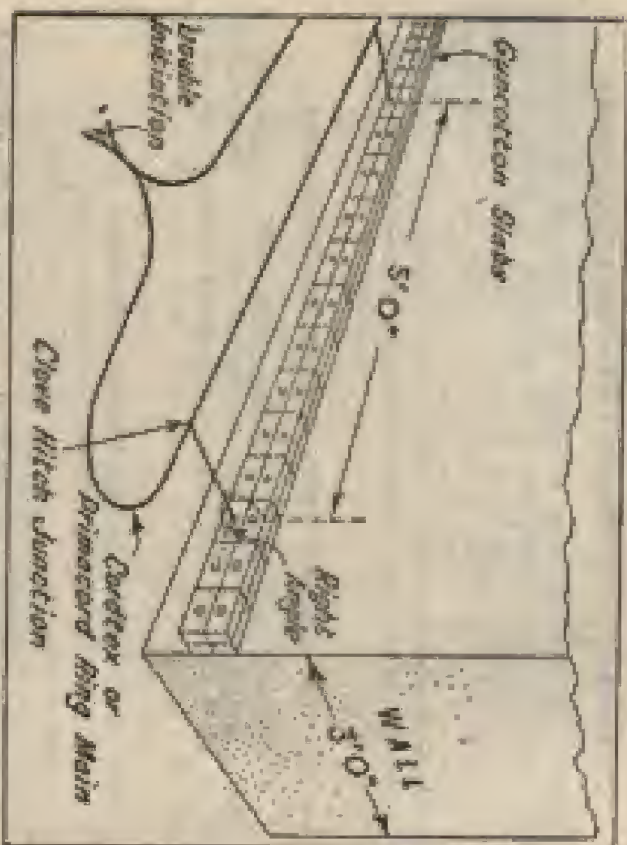

Fig. 13. Cutting charge on thick masonry wall, showing points of initiation. (Firing initiated from clarity)
- (b) Long continuous cutting charges should have joints of initiation (primers fired by cordtex, etc., as already described) every 5 ft of their length (see Fig 13). Grenades, however, should be placed flat end to flat end, with every other grenade initiated by cordtex. Where possible initiation should be on the surface of the charge furthest from the face of the object attached and at right angles to it (see Fig 13).